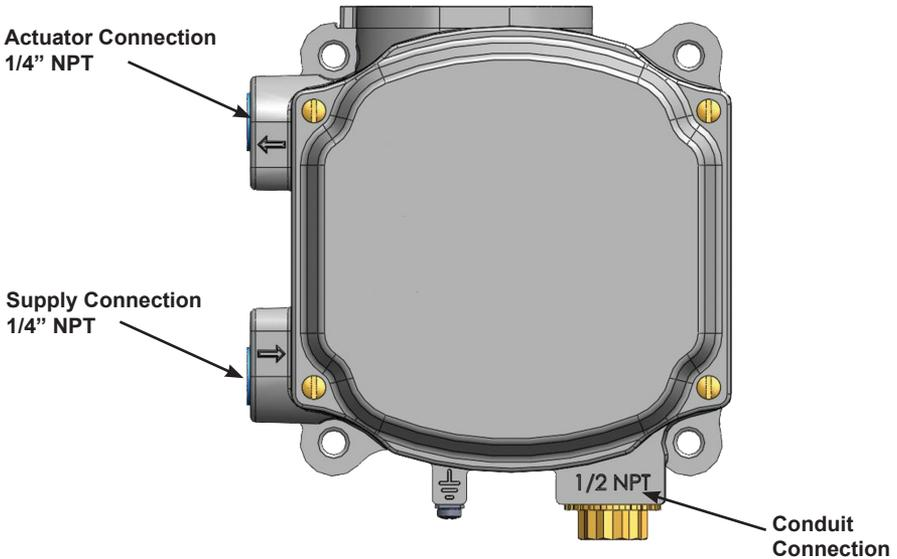

Figure 17 - Air Ports
1. Install the tubing to the air supply port. Minimum tubing diameter 1/4" (Figure 17).